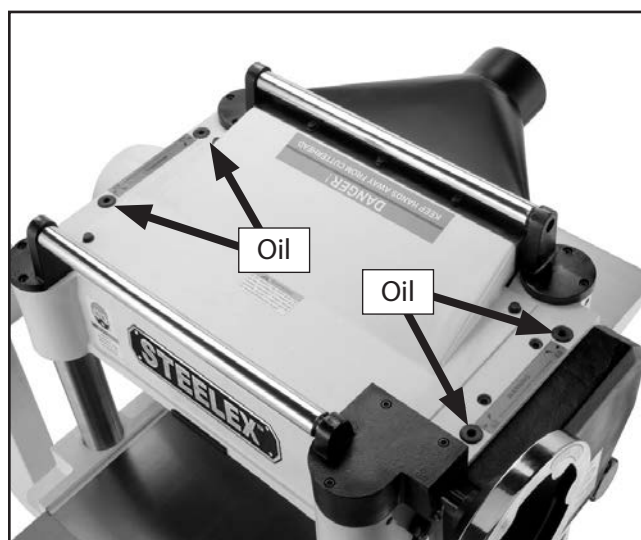

Figure 48. Feed roller lubrication.
- **Feed Rollers:** Lubricate feed rollers daily before start-up. **Figure 48** shows the lubrication points for the feed rollers. These are screws that have holes drilled through them to allow oiling. Make sure that dust is not trapped in these screws and apply two drops of light oil in each to penetrate the bearings. Do not lubricate more than this or the excess will end up on the floor.